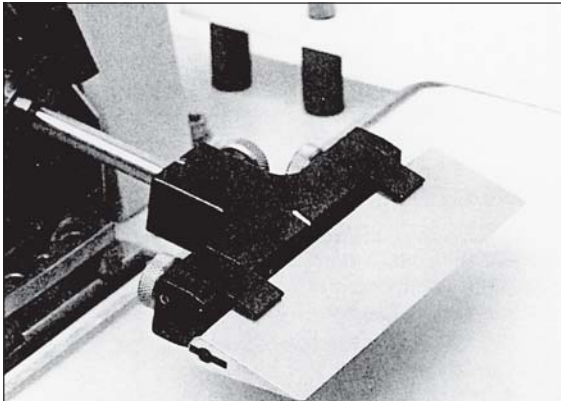

Abb. 17
5. Shake Leica Hone Glass Compound thoroughly until all particles are in suspension. If necessary, remove dispenser top and stir to mix contents. Apply an ,S" shaped line of compound over the surface of the plate (Figure 17). There must be sufficient compound so that the entire plate surface will be covered when the second plate is inserted and redressing begins.